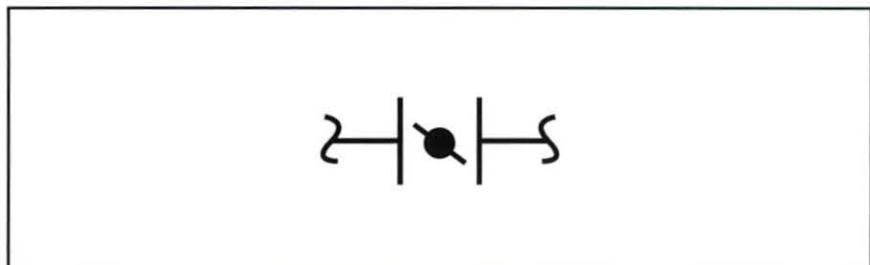

Figure 26. Valve Symbol
4. Determine the type of valve or actuator symbol depicted in figure 26.